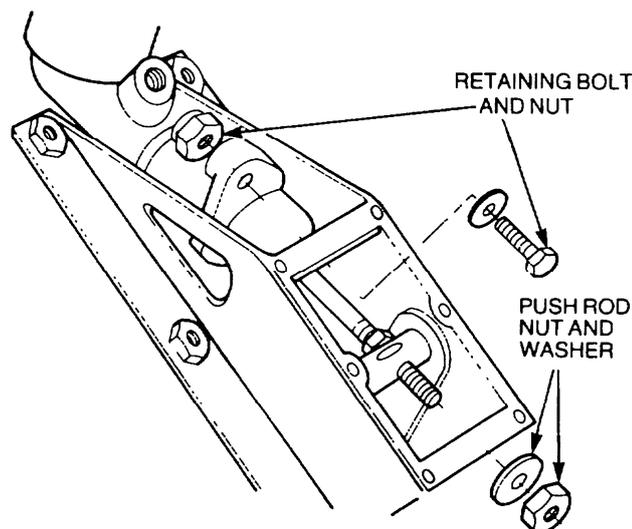

Figure 54 Clutch Master Cylinder Removal
- e. Remove the nut and washer from the push rod (Figure 54).